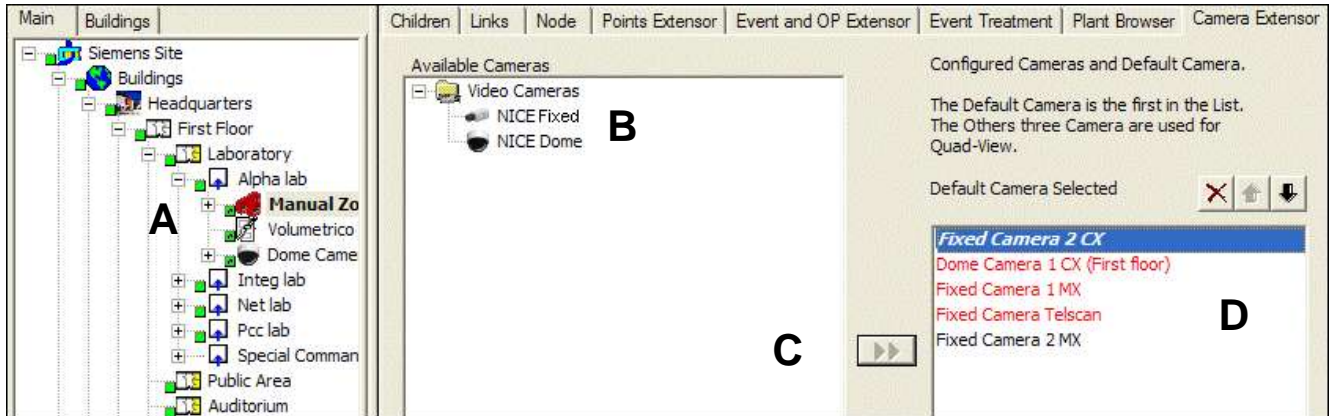

Fig. 13 Camera association
First, select the point node in the tree. Then, in the Camera Extensor tab (Fig. 13) you can see the camera associations and manually add one or more cameras.
- Note:** The next three cameras (if available) display in red text – these will be displayed in the quad view. Any additional cameras associated to the point display in black text. (See Fig. 13, “D”.)